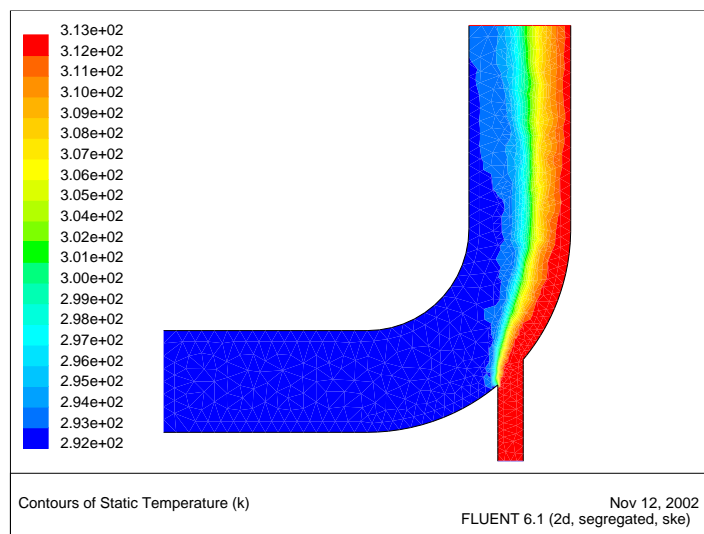

Figure 1.19: Filled Contours of Temperature Using the Adapted Grid
8. Examine the filled temperature distribution (using node values) on the revised grid (Figure 1.19).